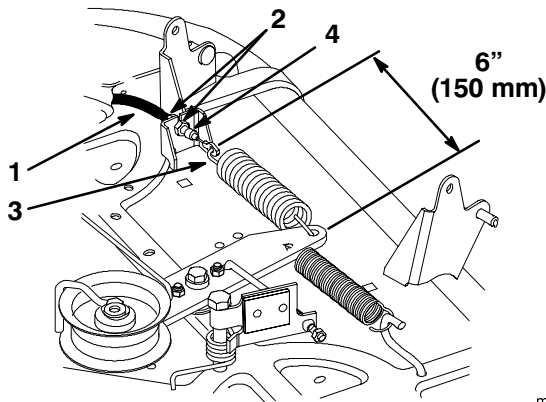

Figure 44
11. Engage the blade control (PTO) lever on the dash. Measure the distance between the hook ends of the idler spring (Fig. 44). Adjust the jam nuts so 6" (150 mm) dimension is obtained (Fig. 44).